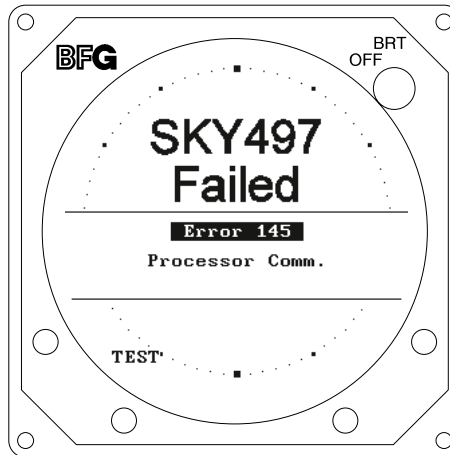

Figure 3-6. Self Test Failed Screen
- a. The "**SKY497 Failed**" screen (see figure 3-6) with an error message indicating the type of failure will be displayed.
- c. Soft-key (1) will be labeled **TEST**. To re-test, press soft-key (1).
- d. Soft-keys (2), (3), and (4) are not used.